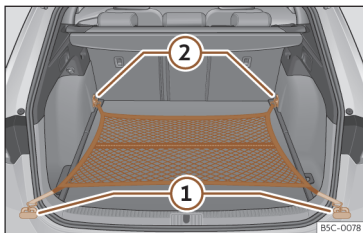

Fig. 194 In the boot: net bag hooked up at floor level.
- Secure the net hooks to the fastening rings >>> Fig. 194 ① and ② >>> ⚠. The bag zip should be facing upwards.